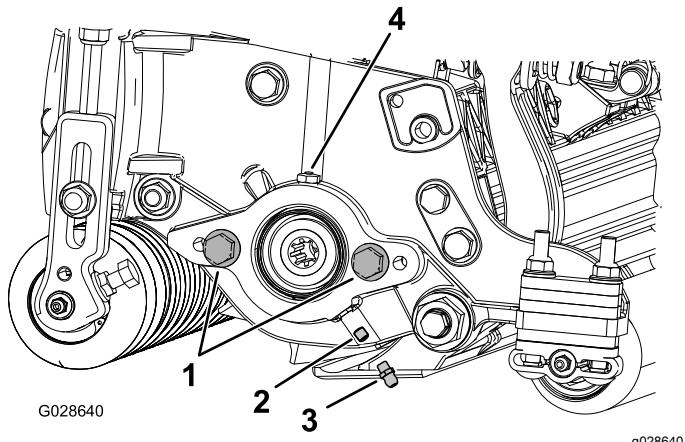

Figure 6
1. Remove and discard the setscrew on the reel-motor side plate (Figure 6).
2. Install the straight grease fitting (Figure 6).
3. If there are no cap screws on the reel-motor side plate, install them (Figure 6).
5. Install the reel motor, and grease the side plate until excess grease comes out of the grease vent (Figure 6).